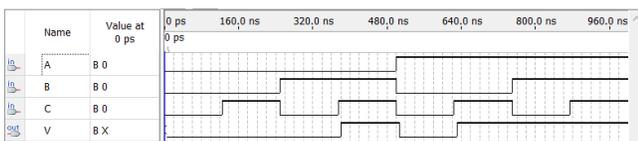

Figure 34. Timing simulation output.
- Next, click run timing simulation icon on the toolbar the result as indicated in Figure 34. For simple simulations such as this circuit, timing requirements are not important. However, timing requirements are critical in more complex designs.